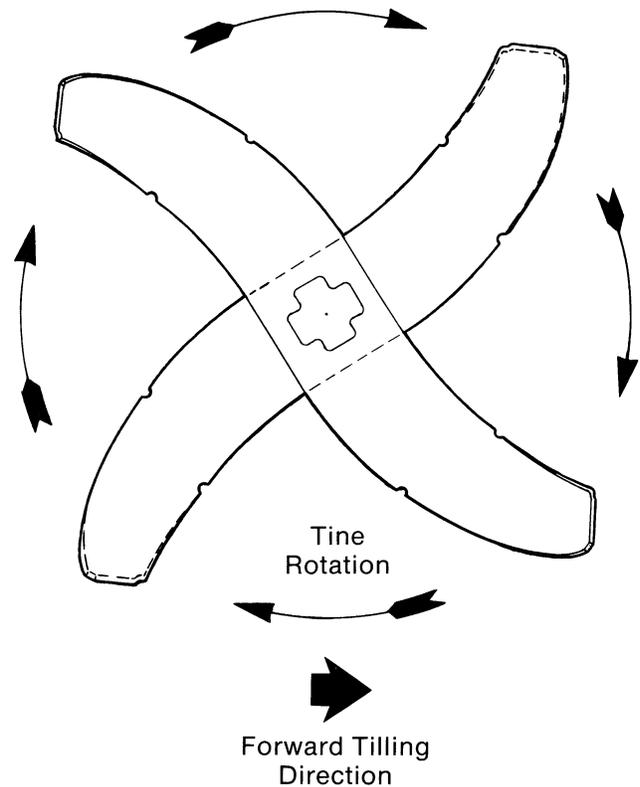

FIG. 26
- When reassembling tines, be certain **all** tines, right and left side are facing the same forward direction as illustrated in (Fig. 26). The rotation of tines is indicated by arrows, as viewed from the right side of tiller.